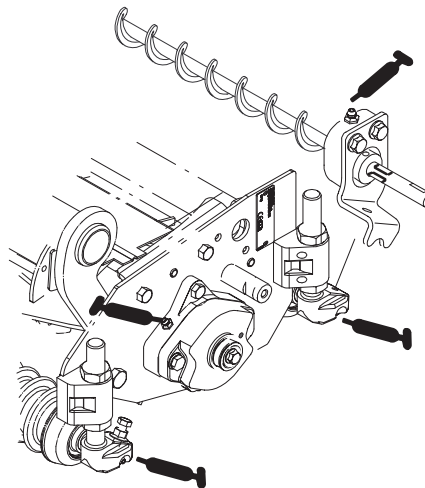

**Figure 14**
31. Insert a washer onto each cover mounting bolt (Fig. 14).
32. Slide belt cover onto mounting bolts and secure with (2) washers and lock nuts (Fig. 14). **Do not overtighten nuts as damage to cover may occur.**